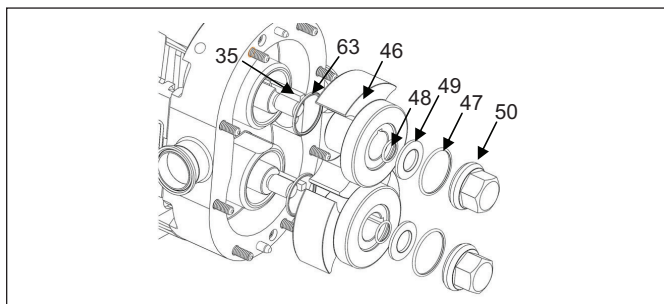

Figure 25. Fluid End Exploded View
- Remove the rotors by orientating them perpendicular to each other and then pulling them out. It is important to be cautious with the rotors so that they are not damaged. If rotors are difficult to remove, use a nylon or wood lever to pry them out without damaging the body or the rotors. If necessary, remove the body hold down screws and tap the body forward to loosen the rotors. Use (Figure 25) to ensure that all parts are removed.